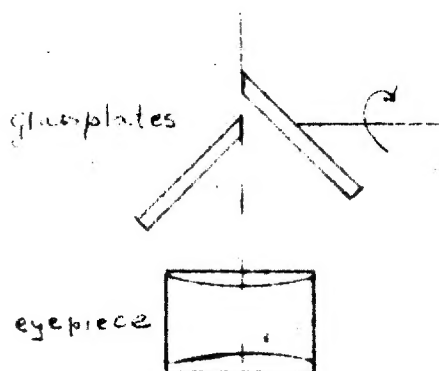
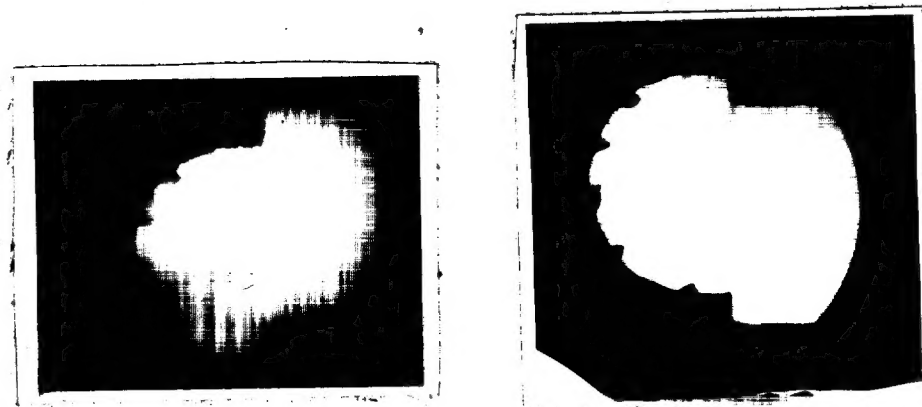

Fig. 1
Fig. 2
2. In order to have an objective measurement we have to introduce a split field arrangement close to Image Plane 2, indicated in Fig. 11-2 of our proposal. Some tests were performed with a setup as shown in Fig. 1.
The desired goal is to split the field in two halves with a sharp dividing line between the two halves. The shown inclination of the glass plates in fig. 1 allows us to effectively get a sharp dividing line. A rotation around axis a, as shown in the figure, will displace one-half of the field. This is necessary because of the way the filter is used (a phase change of  $180^\circ$ ) and for the phase measurements. Fig. 2 shows the effect of this arrangement in a crude form.